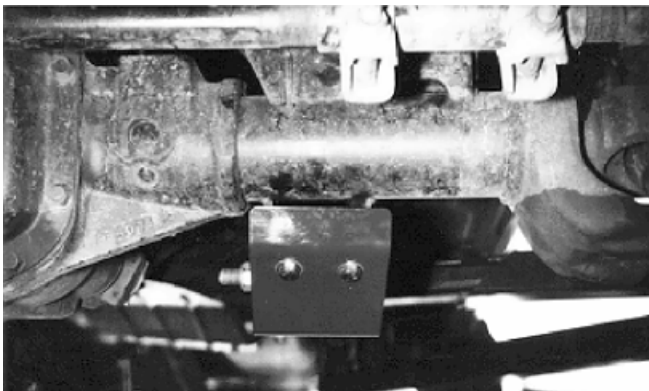

fig. 12
32. Bolt the skid plate # 140166 from bag # 860046 to the tabs located just ahead of the front side of the lower link using the 5/16" bolts, nuts, and washers from bag # 860045. The holes on the tabs may have to be enlarged to 11/32" on some vehicles. Torque to 20 ft. lbs. **Refer to fig. 12**